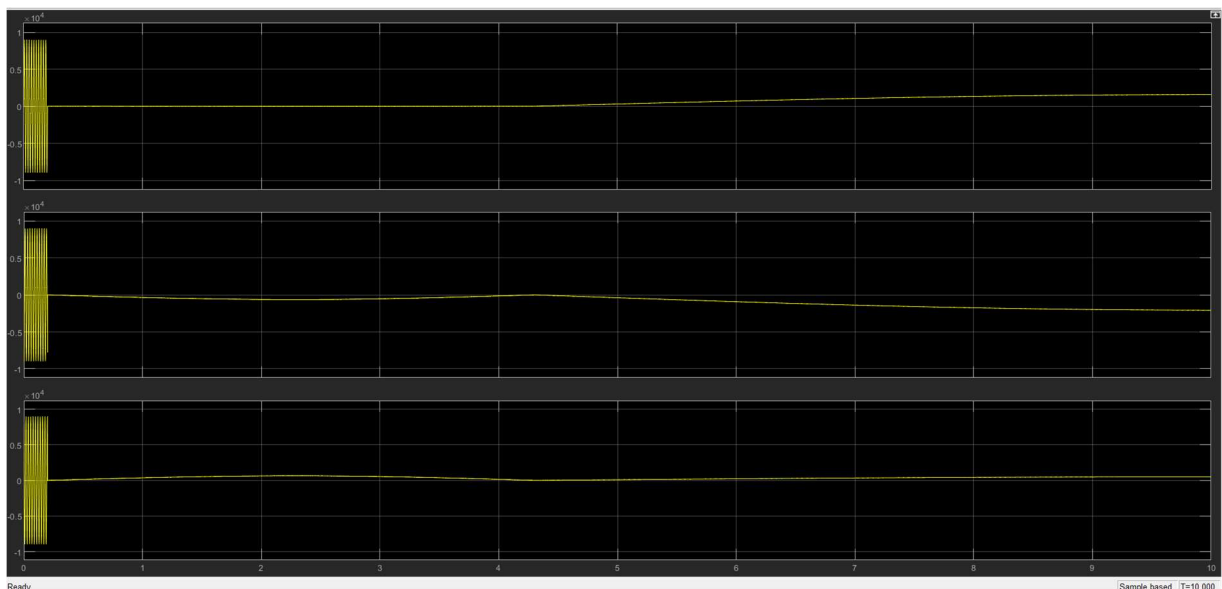
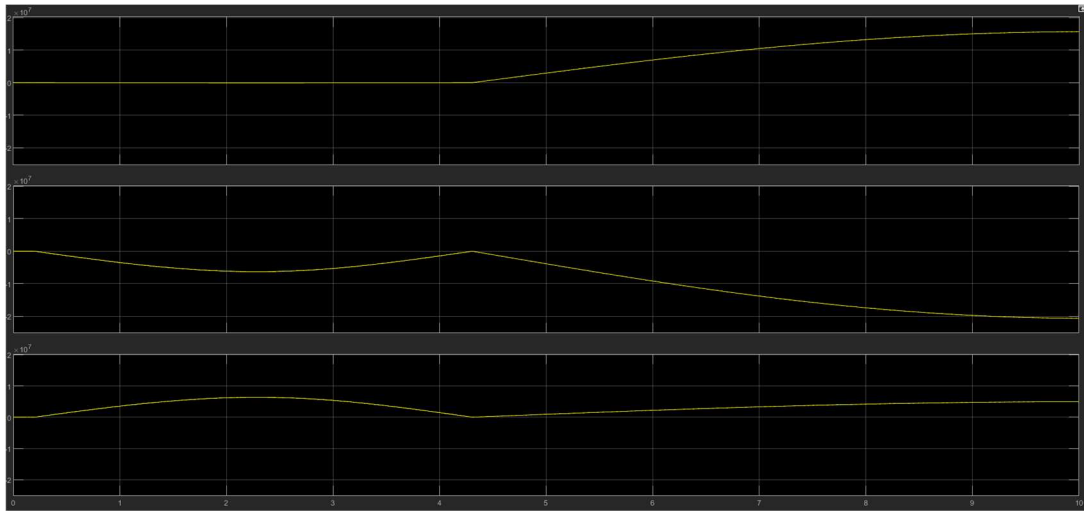

Figure 02: voltage output from scope
Figure 03: Current output from scope 1
- b) Before the fault (Figure 02) the voltage waves are smooth and sinusoidal but when the fault happens the voltage drops to zero. In the current output (Figure 03) the current starts at zero in each line and then increases in either the positive or negative direction.